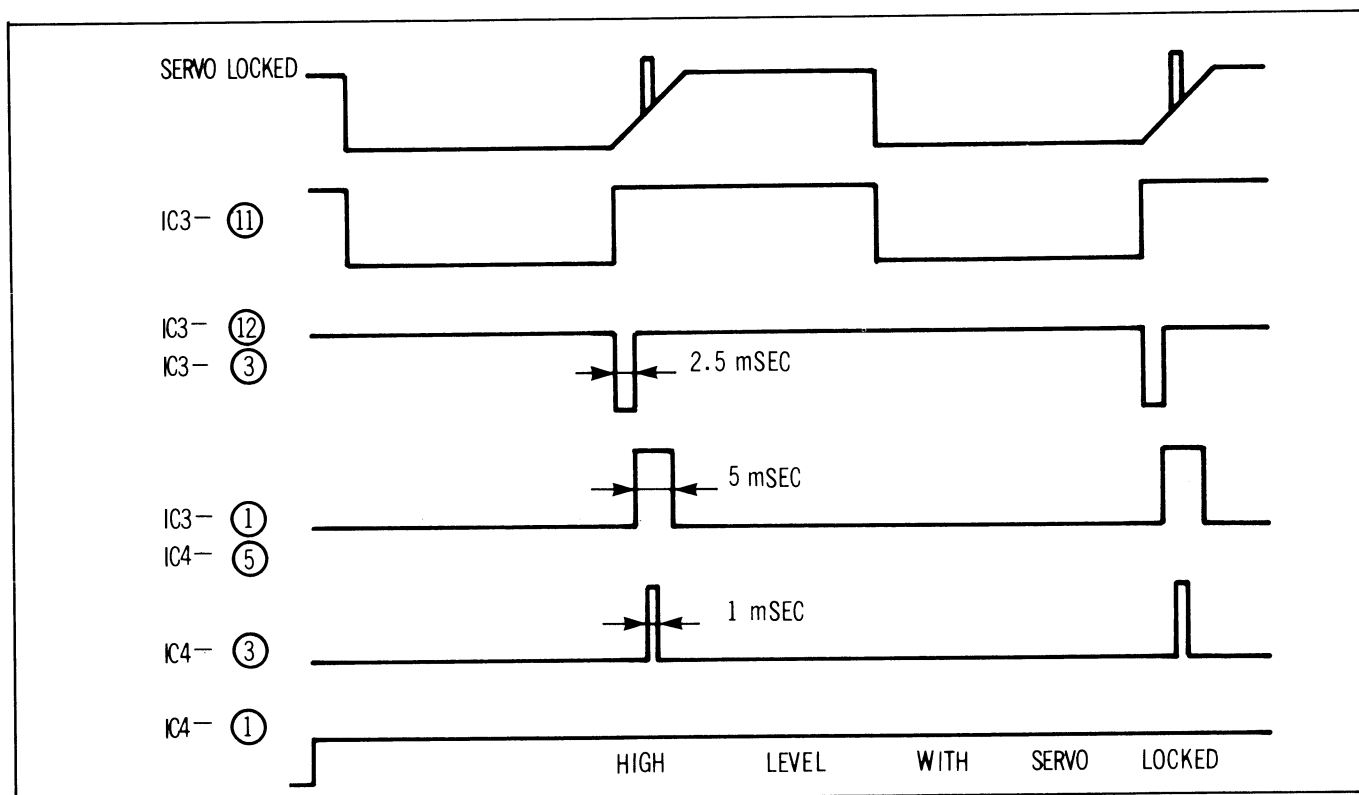

Figure 2-164
The reset input, IC4-(4), should be a low, which means the cylinder servo is locked. Cylinder servo (L) comes from the connector P215-(2) and is made in the Servo circuit by Q46, Q47 and Q48. A high at IC4-(1) turns Q16 on to light the Servo Lamp through connector P216-(3). Refer to the block diagram and the timing chart, Figure 2-164.